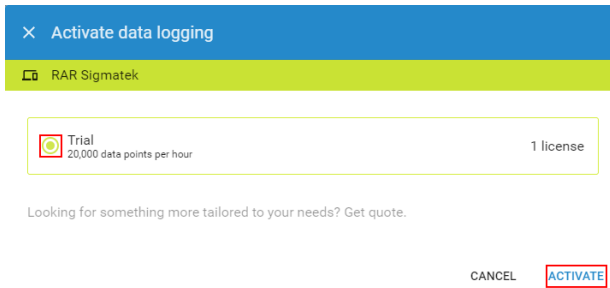

Figure 5.76 Select the type of data logging licence to activate.
4. Select the licence (Figure 5.76).